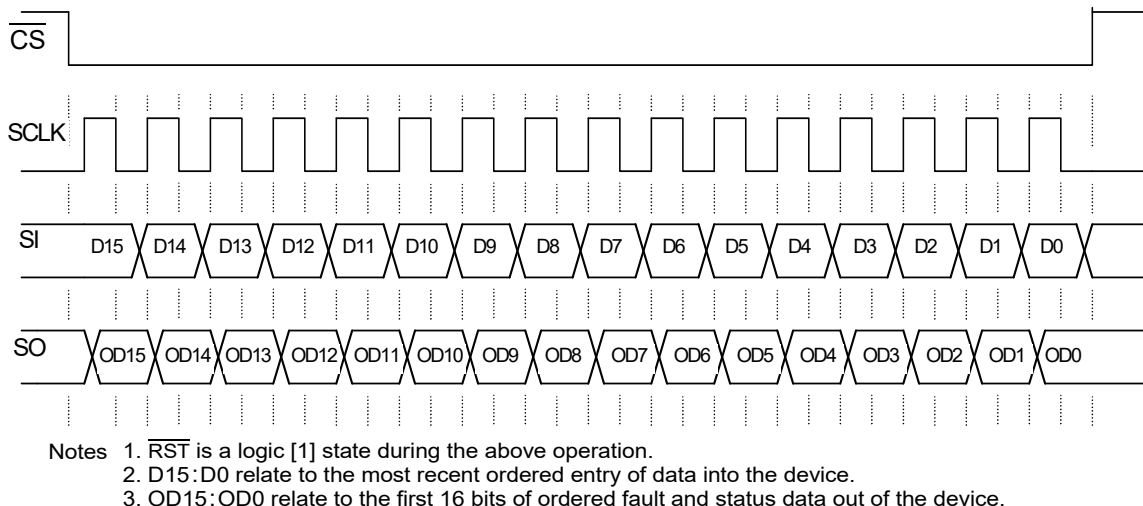

Figure 10. Single 16-bit word SPI communication
The SCLK pin clocks the internal shift registers of the 10XS3412 device. The serial input (SI) pin accepts data into the input shift register on the falling edge of the SCLK signal while the serial output (SO) pin shifts data information out of the SO line driver on the rising edge of the SCLK signal. It is important the SCLK pin be in a logic low state whenever $\overline{CS}$ makes any transition. For this reason, it is recommended the SCLK pin be in a logic [0] whenever the device is not accessed ($\overline{CS}$ logic [1] state). SCLK has an active internal pull-down. When $\overline{CS}$ is logic [1], signals at the SCLK and SI pins are ignored and SO is tri-stated (high-impedance) (see Figure 10, page 27). SCLK input has an active internal pull-down, I_{DWN} .
6.2.8 Serial input (SI)